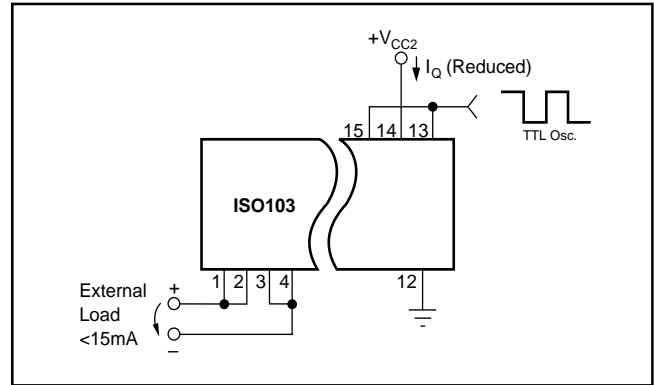

FIGURE 5. Reduced Power Dissipation.
Multichannel synchronization with reduced power dissipation for applications requiring less than $\pm 15mA$ from V_{CC1} is accomplished by driving both the Sync input pin (15) and Enable pin (13) with the TTL oscillator as shown in Figure 5.